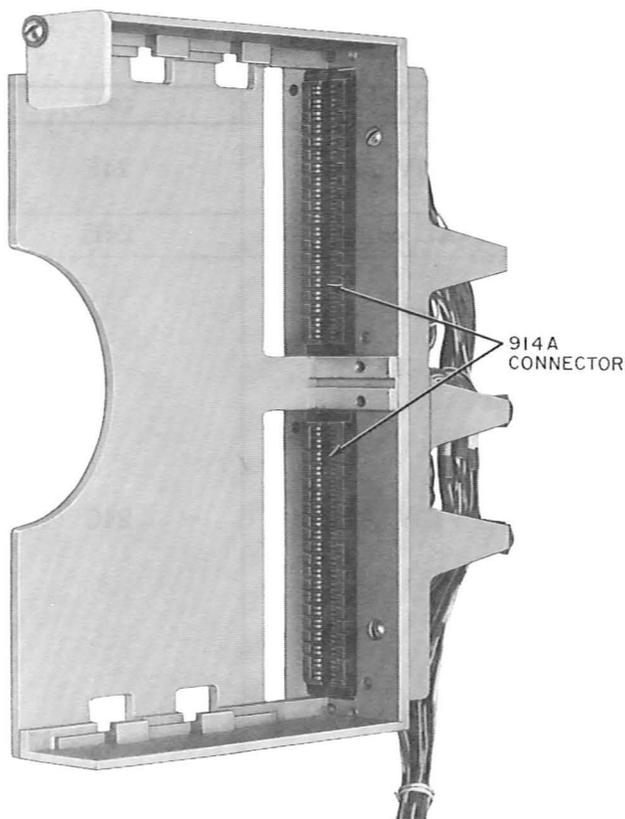

Fig. 3—69F Apparatus Mounting
- (p) If an external power supply is used, as many as three 69F apparatus mountings can be mounted in the space normally occupied by the power unit. Each 69F apparatus mounting will accommodate two 4-inch, (with the addition of a P40V590 guide assembly) or one 8-inch 400 series KTU. The 69F apparatus mounting must be ordered separately and installed in the field (Fig. 3).